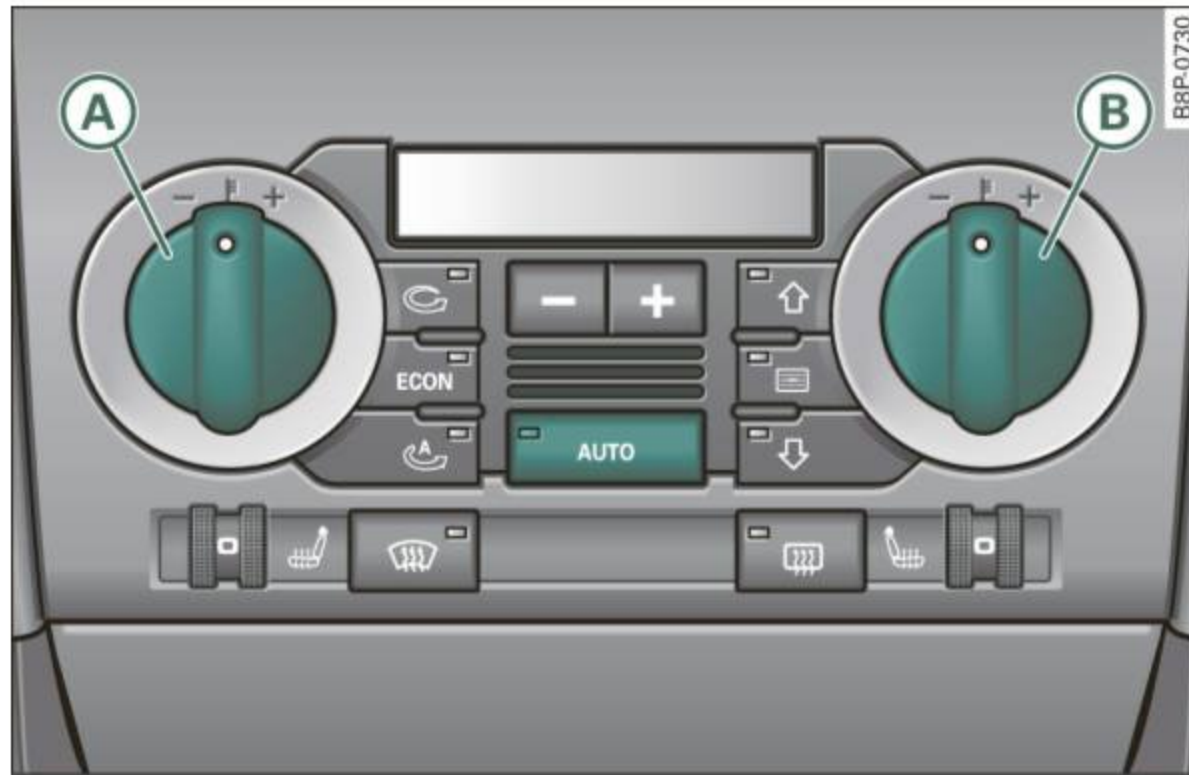

Fig. 129 Air conditioning controls
- Press **AUTO** ⇒ fig. 129.
- Turn the rotary switch **A** on the driver's side and the rotary switch **B** on the passenger's side left (–) or right (+) to control the temperature ⇒ *page 126, fig. 129.*
- Press  ⇒ *page 126, fig. 129.*
- Press the button  ⇒ *page 126, fig. 129* ⇒ .
- Press  to activate ⇒ *page 126, fig. 129.*
- Hold the  button down ⇒ *page 126, fig. 129.*
- Press  ⇒ page 126, fig. 129 ⇒